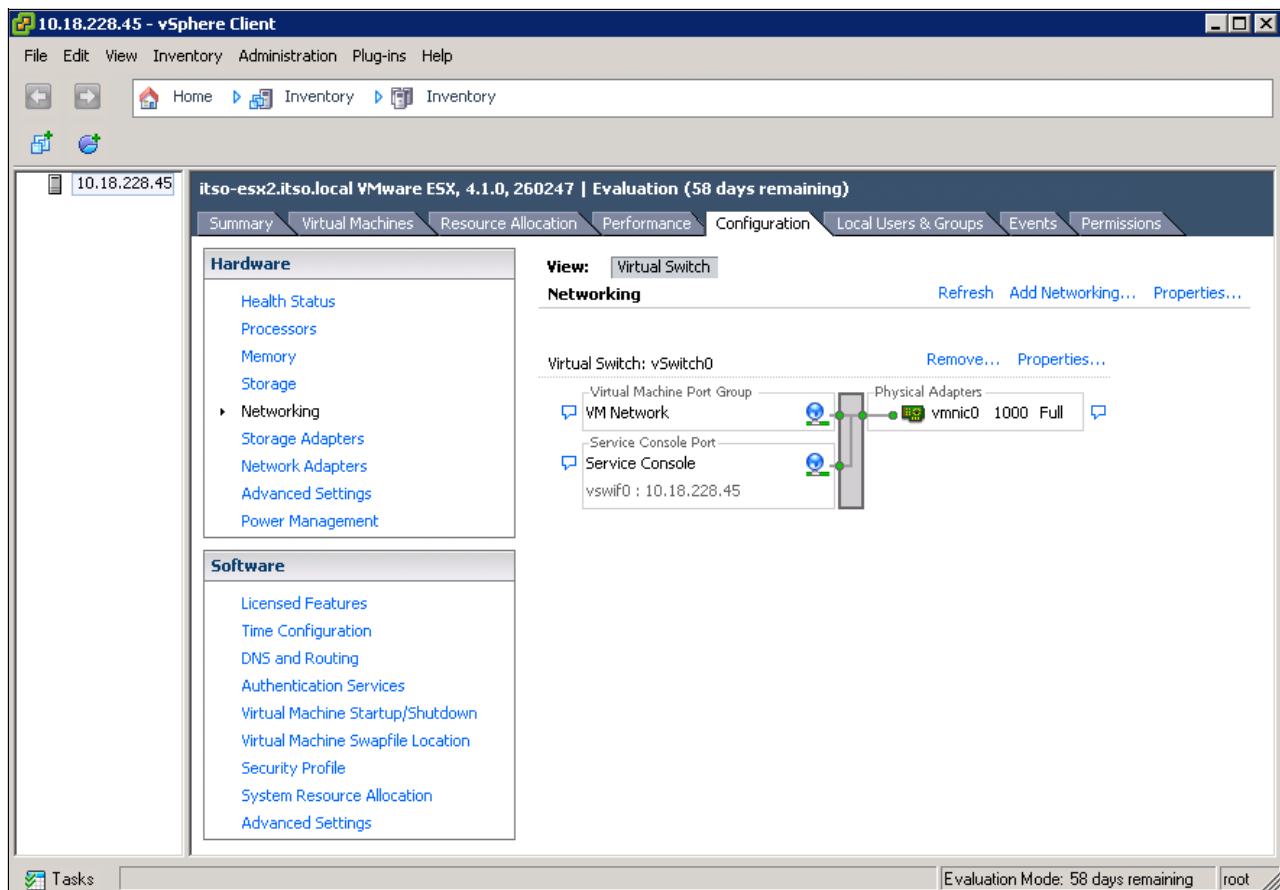

Figure 4-8 Select VMware networking
1. Connect to your ESX server using the vSphere Client, navigate to **Configuration**, and select **Networking** (Figure 4-8).